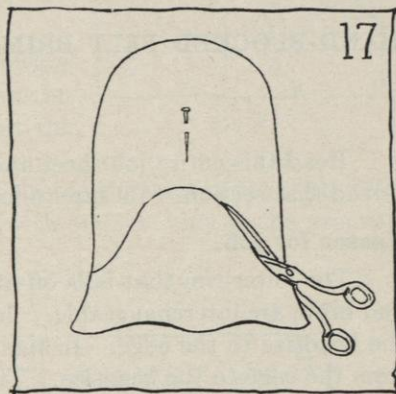

FIG. 17.
8. Cut the crown on chalk line as it was originally drawn or as altered, by digging with the point of the scissors right through the chalk line, and then continue to cut (see Figure 17). Do not cut through the felt that is left, for the cut may interfere with the design of the hat, particularly if you wish to make a brim.